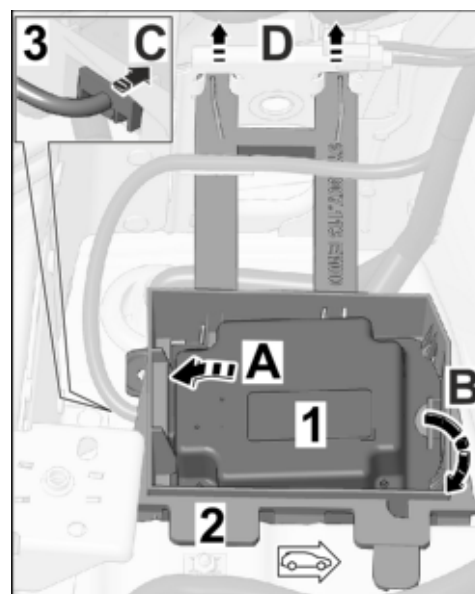

Figure 12
- 2.3 Install engine noise control unit ⇒ *Figure 12*
- 2.3.1 Push control unit into holder and lock. ⇒ *Figure 12 -A and B-*
- 2.3.2 Establish a plug connection (16-pin) between the wire harness for engine noise / engine noise control unit. ⇒ *Figure 12 -C-*
- 2.3.3 Install holder with engine noise control unit to body. ⇒ *Figure 12 -D-*